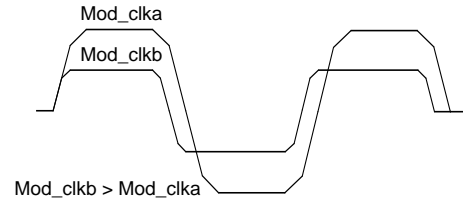

Figure 20. Two Different Modulator Clock Setting
A $f_{\text{MOD_CLK}}$ of 8 times the bit rate (as in Figure 20) corresponds to a signal filtered in a Gaussian filter with a Bandwidth Period product (BT) of 1. When BT is increased, the waveform will be less filtered. Minimum BT is 1 ($f_{\text{MOD_CLK}}$ is 8 times the bitrate). Figure 20 shows two waveforms with BT=1 and BT=2, i.e. the $f_{\text{MOD_CLK}}$ is 8 and 16 times higher than the bit rate. When changing the BT factor, the charge-and discharge times will also be changed, and therefore the frequency deviation, as shown in Figure 20.